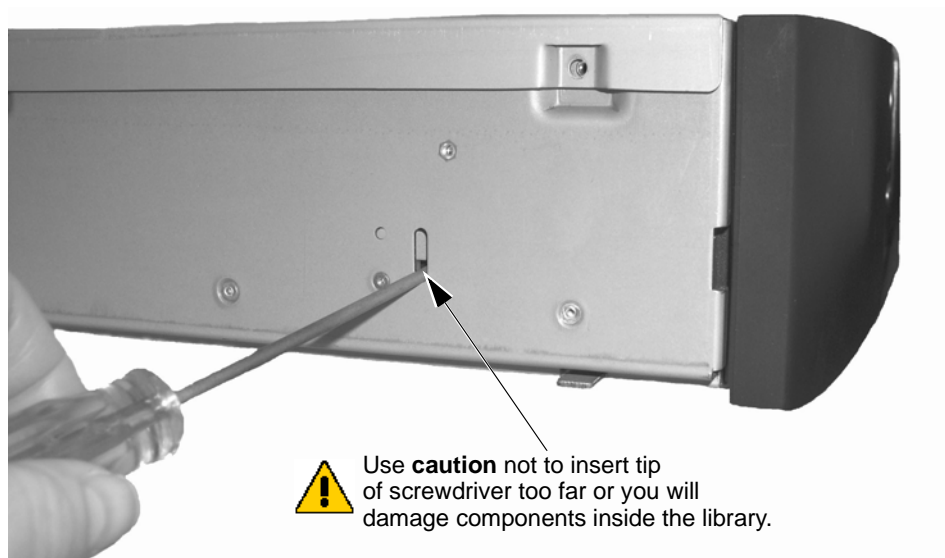

Figure 7-15 Manual magazine release
2. Insert the tip of a small flat-blade screwdriver into the bottom of the small slot and gently lift up to disengage the locking mechanism (see Figure 7-15). Each side of the library has an access slot—one for each magazine. The magazine will disengage and move a short distance out of the library.